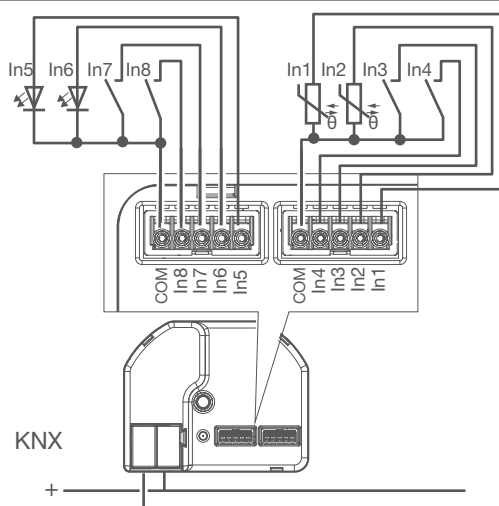

Fig. 4: Connection example, 8-gang push-button interface
- 4 Connect the push buttons, switches, contacts, LEDs or NTC with the supplied connection cables according to the connection examples (Fig. X) (Fig. 4). Unused wires must be insulated.